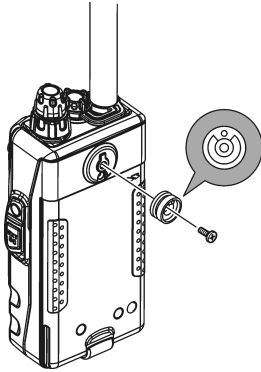

Figure 1
- Connect the hanger to the rear of the **VXA-300**, with the notch pointing directly up, using the supplied screw (Figure 1). Use only the screw included with the clip to mount the clip to the back of the **VXA-300**.